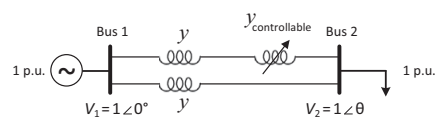

Figure 1.23 The network with controllable admittance in Exercise 1.20.
- 1.20** Consider the 2-bus power transmission network with two parallel transmission lines, as shown in Figure 1.23. Admittance $y = -j10$ p.u. is fixed. The controllable admittance y_{control} can be adjusted between 0 and $-j20$ p.u. Select y_{control} such that one-fourth of the power transfer from bus 1 to bus 2 flows through the top transmission line and three-fourth of the power from bus 1 to bus 2 flows through the bottom transmission line.